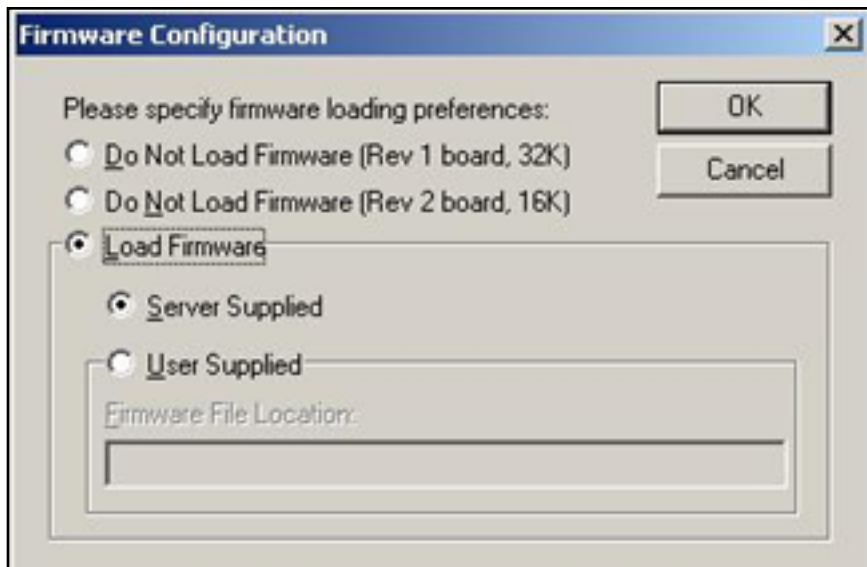

Figure 7: Firmware Configuration Dialog Box
3. Press the **Configure** button. The **Firmware Configuration** dialog box appears (Figure 7 below).